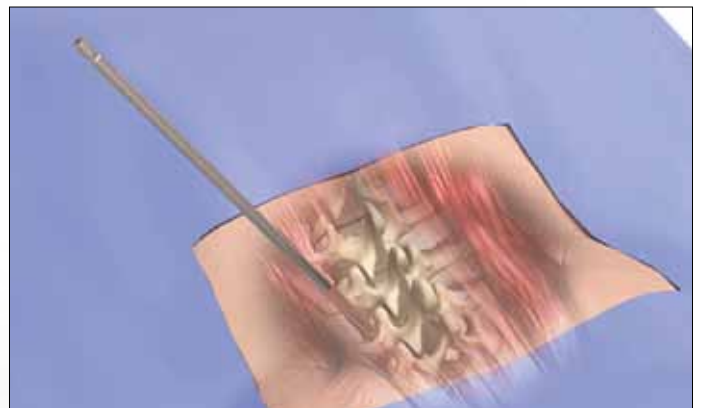

FIG. 11
- Remove the Palm Handle. The Shaft is left in place and used as the 1st Dilator. (FIG. 11)